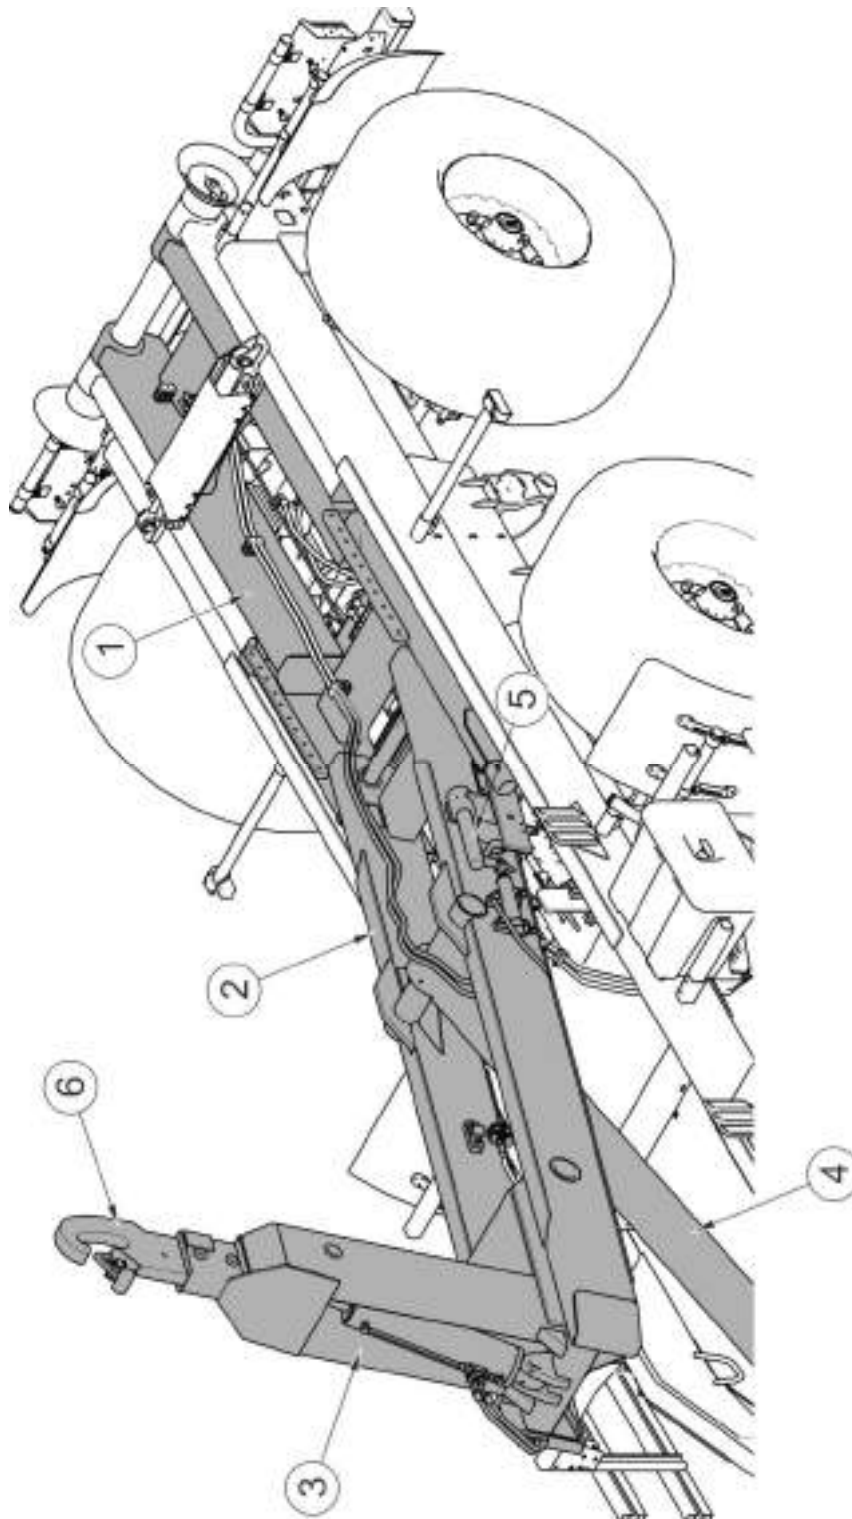

FIG. 3.2 **Tipping frame**
(1) rear frame, (2) central frame, (3) hook frame, (4) tipping cylinder, (5) tipping frame lock mechanism, (6) hook with lock
Complete tipping frame comprises rear frame (1) - figure 3.2, central frame (2) and hook frame (3) to which is screwed the hook (6). Tipping frame is secured to lower frame with the aid of tipping axle and tipping cylinder (4). Hook lock automatically falls or rises depending on position of frame. Individual frames are connected with the aid of pins seated in sleeves. Tipping frame lock mechanism (5) is secured to the left longitudinal member of the central frame.